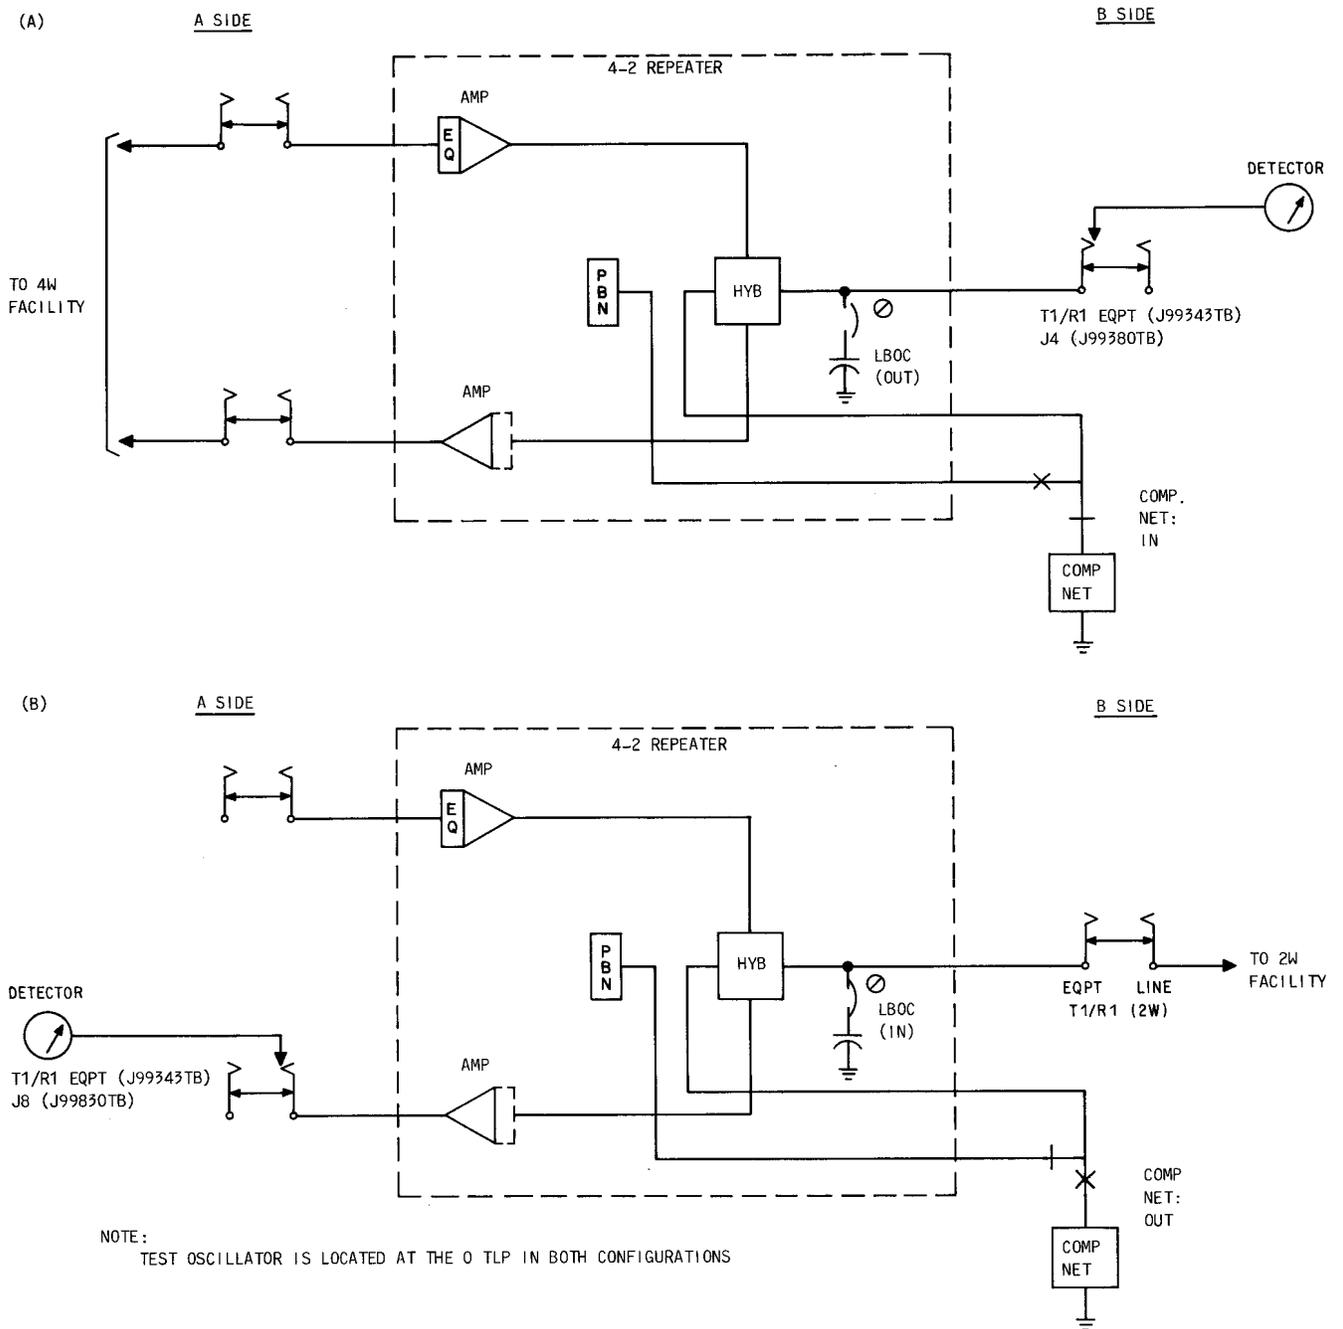
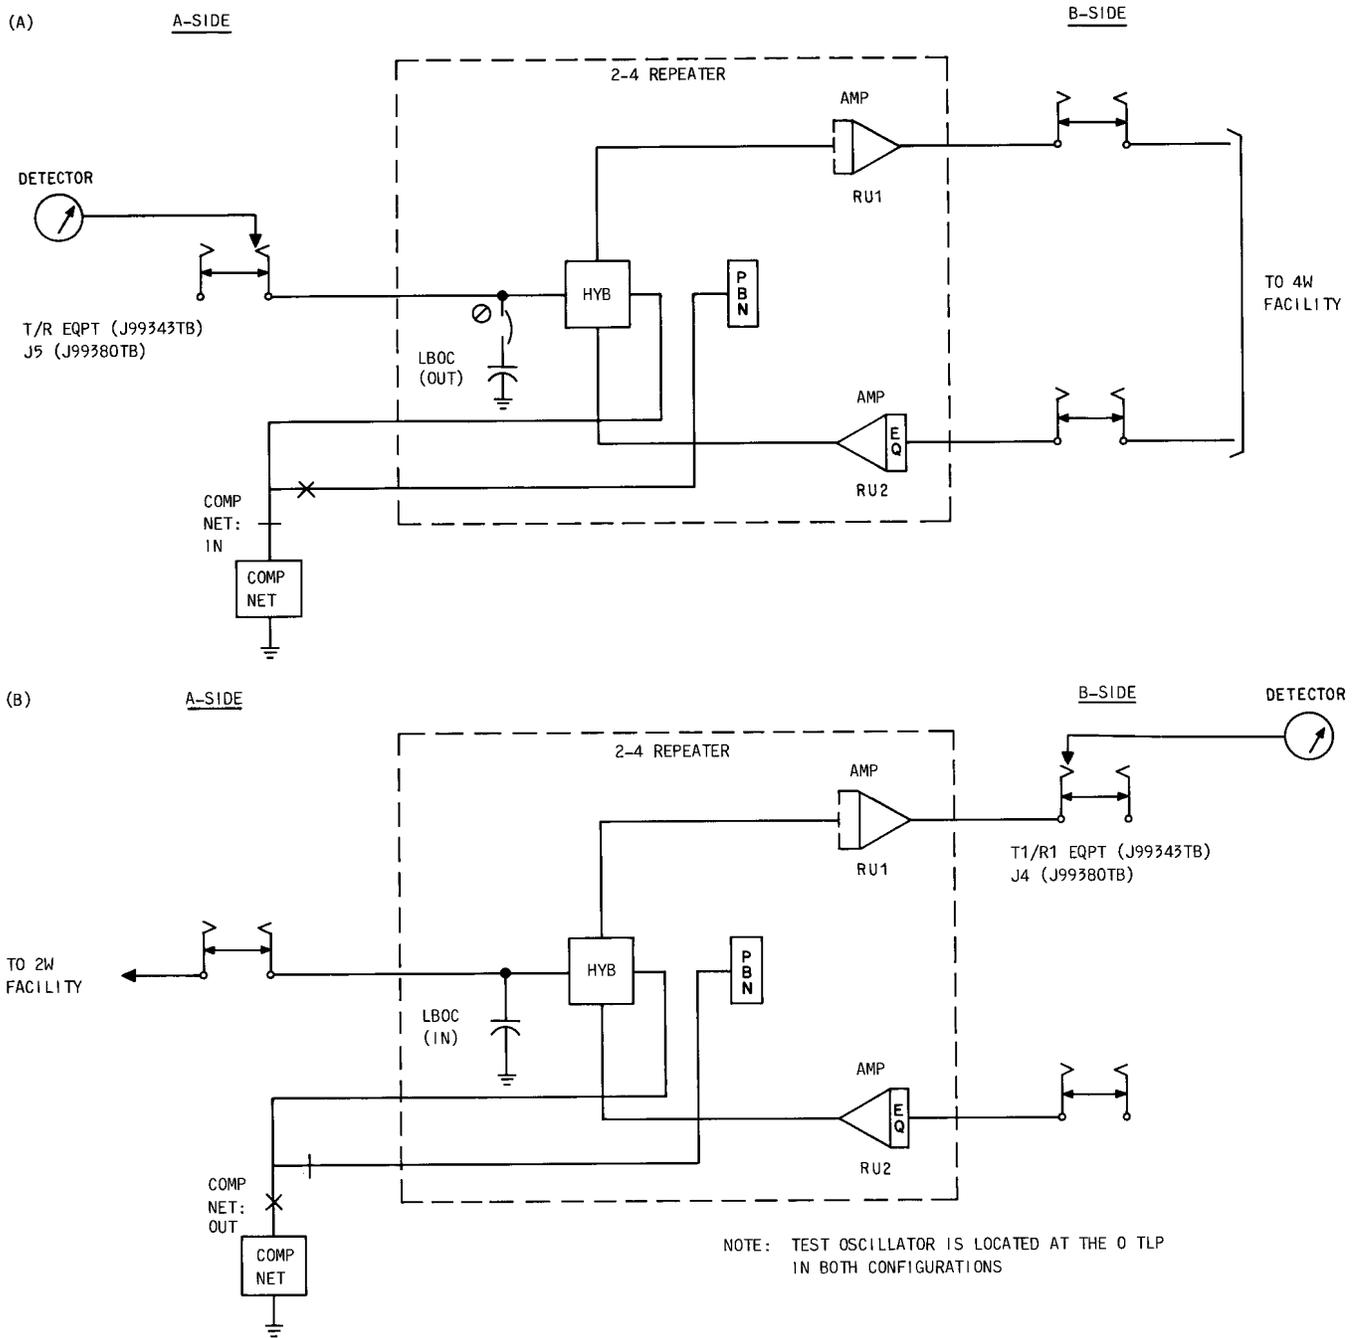

Fig. 18—Test Configuration For Adjusting the 4-2 Repeaters For a Specified Output Level
Fig. 19—Test Configuration For Adjusting the 2-4 Repeaters For a Specified Output Level
8.18 The test configurations for the 4-2 repeaters are shown in Fig. 18 and the configurations for the 2-4 intermediate repeaters are shown in Fig. 19. The figures show the test connection for each direction of transmission.
| 4 | Connect the detector to the test extender as shown in Fig. 18(A). |
| 9 | Connect the detector to the proper A-side jack as shown in Fig. 18(B). |
4	<p>Connect the detector to the test extender as shown in Fig. 19(A).</p>
9	Connect the detector to the proper B-side jack (output of RU1) as shown in Fig. 19(B).